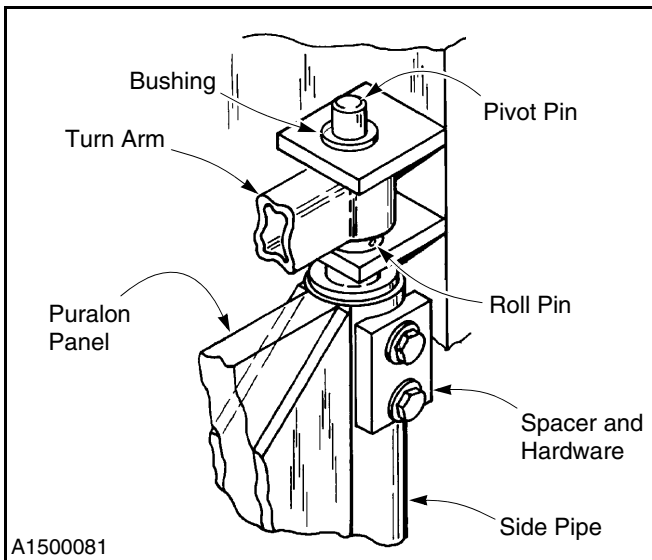

Figure 19
2. Check that the spacer and hardware securing the side pipe to the upper side pipe pivot pin are in place and tight. (See Figure 19.)